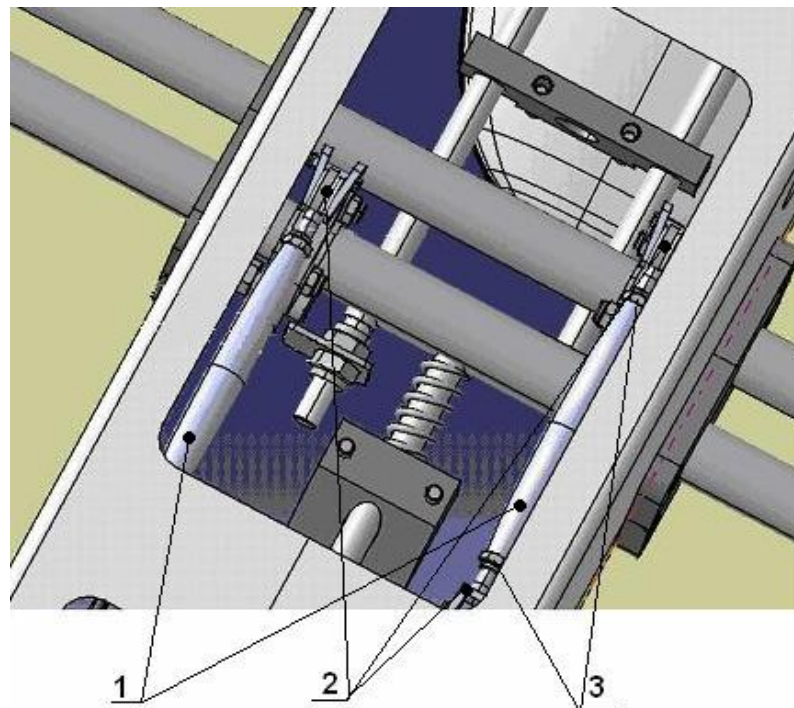

Fig. 10
If failed with fine adjustment, coarse adjustment by the threaded adjuster bushings C9997080 Turnbuckle Bluewave M6 (Fig. 10, item 1) has to be done.
2. Release the tips (Fig. 10, item 2), having loosened the locking nut (Fig. 10, item 3) by a 10x13 wrench.
6. Repeat items 4-5, if necessary.
7. Tighten the nuts (Fig. 10, item 3) by a 10x13 wrench unscrewing them from the tip towards the threaded adjuster bushing.